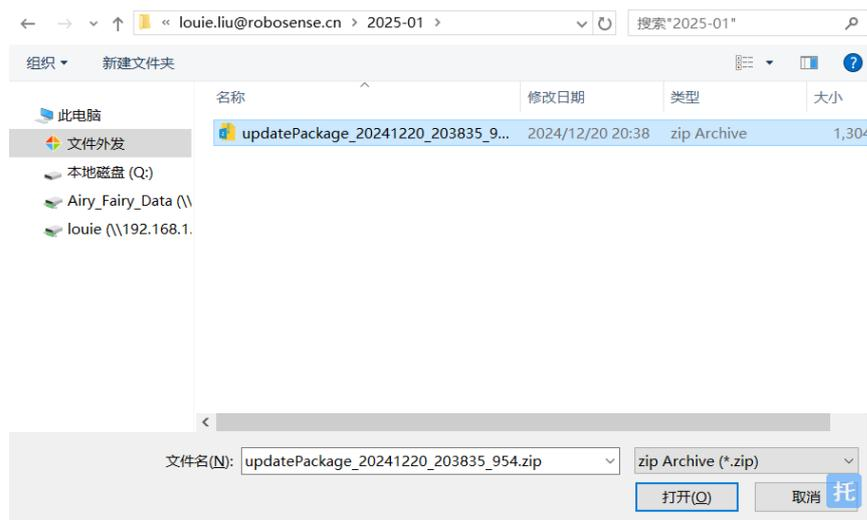

Figure 21 Select the File in the Path where the Upgrade Package is Stored
- 2) Select the folder corresponding to the firmware to be upgraded, select the firmware to be upgraded, and click "Open" (no Chinese characters appear in the path), as shown in Figure 21.